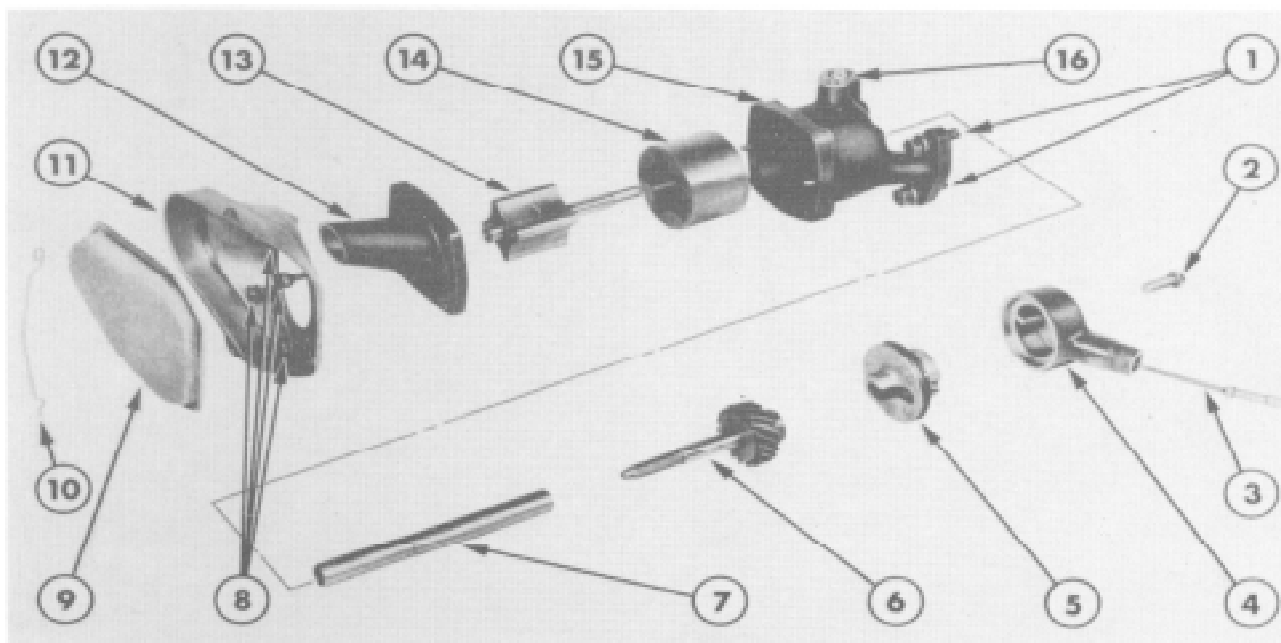

Figure 18
4. Slacken the retaining bolt, then withdraw the driveshaft adaptor assembly and the oil pump drive gear Figure 18.
2. Remove the four cap screws and remove the screen cover and pump cover. Figure 18. Remove the rotor and shaft assembly.
4. Insert self-tapping screw of the correct size into the hole in the relief valve plug and pull the plug out of the chamber. Remove the spring and relief valve, Figure 18.
The oil pump assembly is shown in Figure 18.